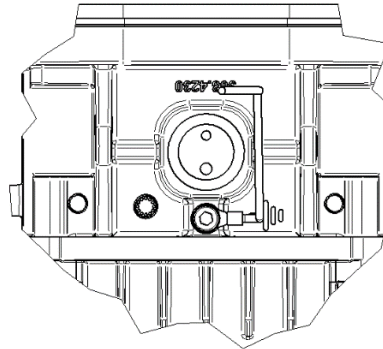

Figure 16: grounding wiring for fixture equipped with two-pole cable lead with plug
- Provide the grounding wiring by means of the suitable external screw, placed at the bottom of the body (fig. 16).